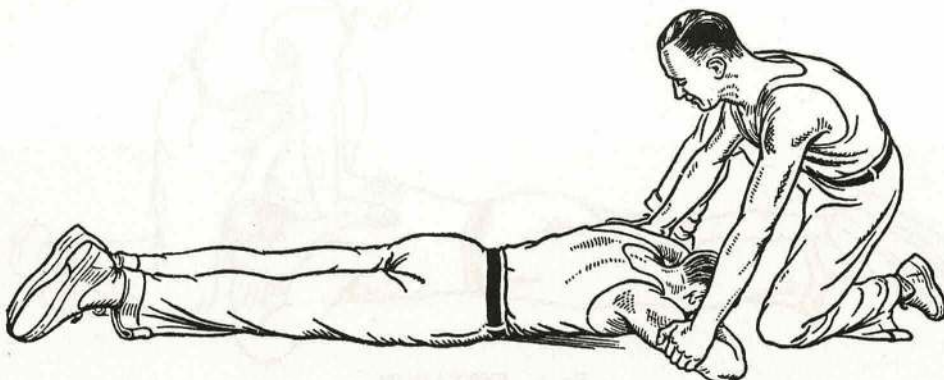

Fig. 7. READY FOR INSPIRATION
36. Release the pressure gradually and slide your hands to just above the elbows of the casualty, counting "four" (Fig. 7).